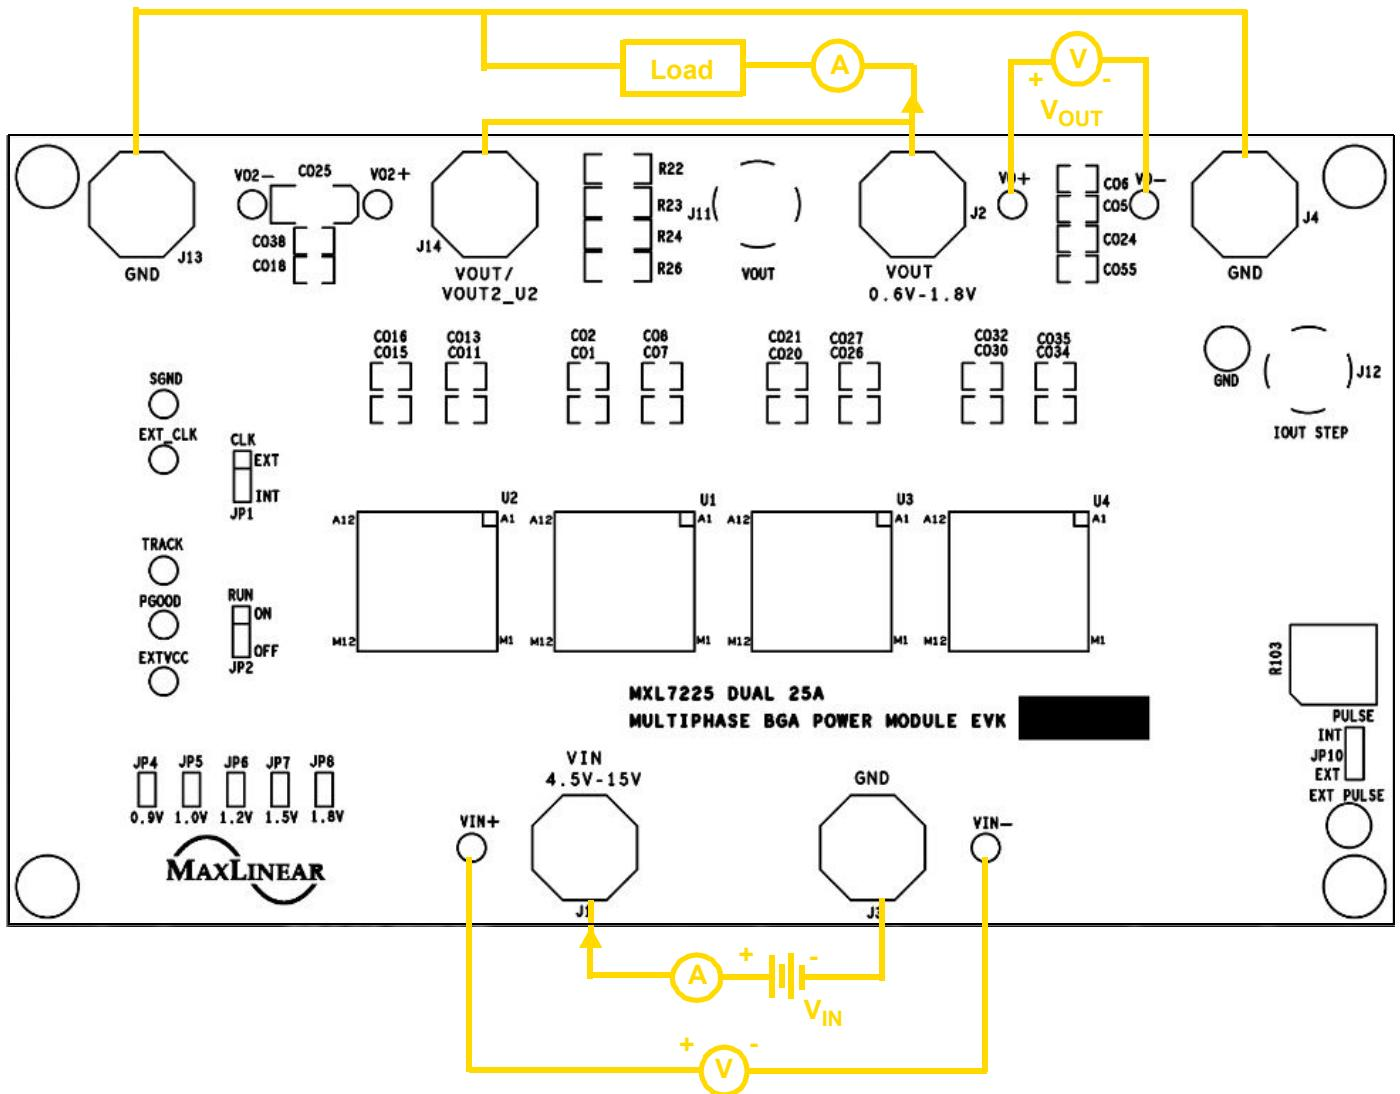

Figure 1: Monitoring V_{IN} and V_{OUT}
2. With a power supply turned off and within a V_{IN} specification of 4.5V to 15V (12V typical), connect it to VIN and GND with short, thick leads. Use test pins VIN+ and VIN- to monitor VIN and GND respectively. See locations in Figure 1.
3. For the output, connect a meter and electronic load initially set to 0A, that will be no more than the above maximum I_{OUT} (200A), to VOUT and GND with short / thick leads capable of this current. See setup and locations in Figure 1.